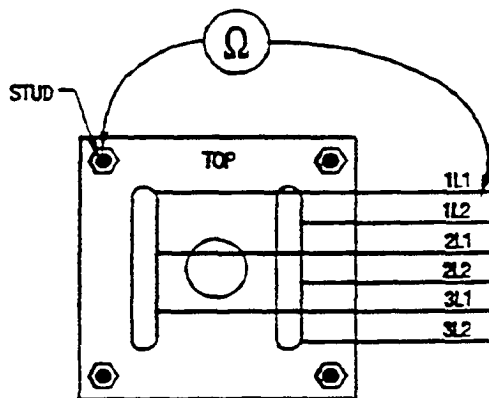

Figure 6-44. Megger or Ohmmeter Connection for Insulation Resistance
6. Refer to Figure 6-44, and check the resistance of each heater and dryer element. Compare the meter readings with the values listed in Tables 6-1 and 6-2.